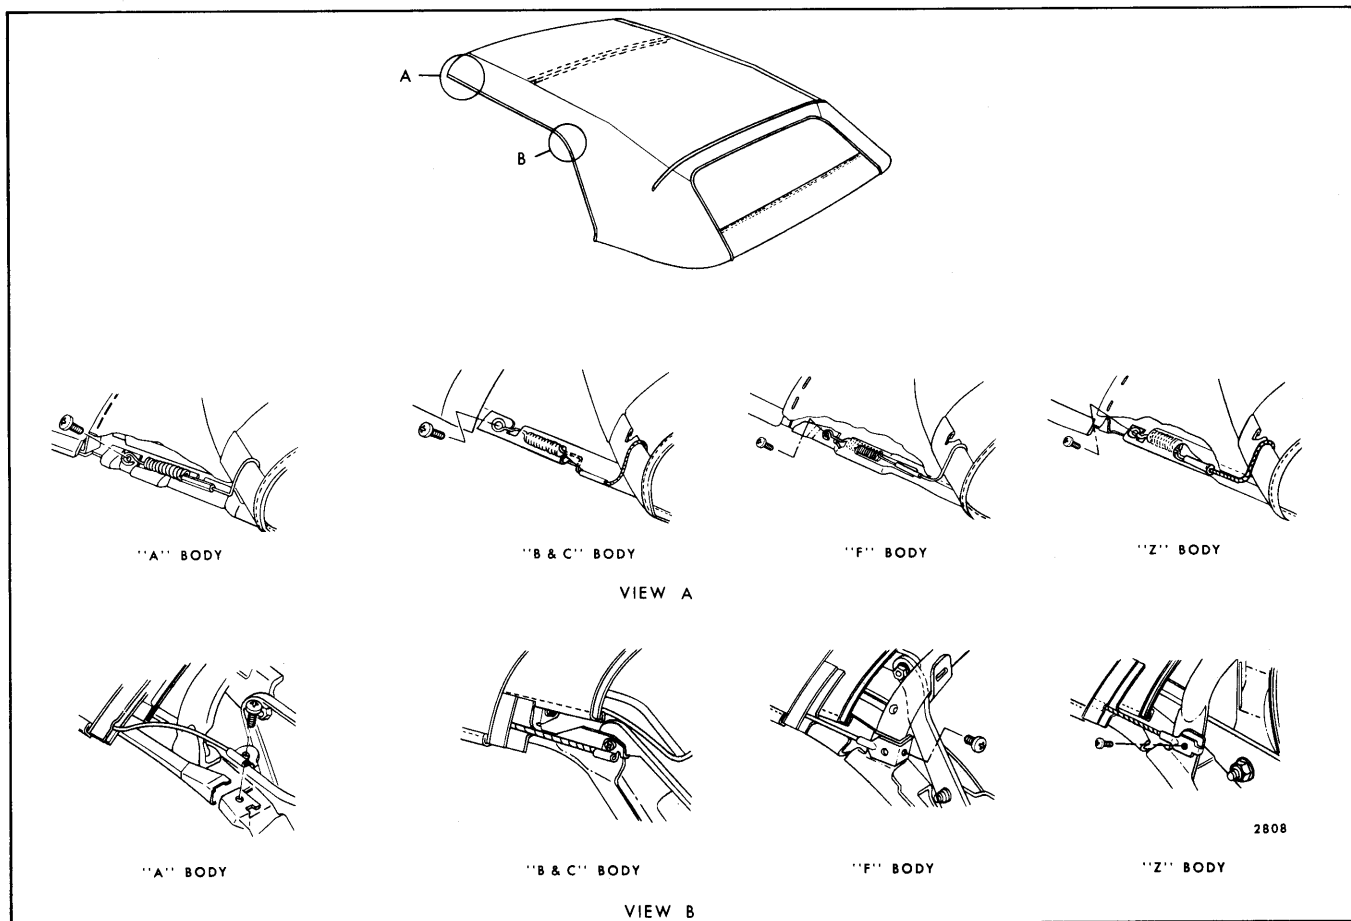

Fig. 13-27—Convertible Top Material Hold Down Cable
12. At right and left side roof front and rear rails, remove hold-down cable front and rear attaching screws. (See Views "A and B" in Fig. 13-27.)
14. After cables have been inserted in hold-down pockets in top material, securely install front and rear cable attaching brackets to side roof front and rear rails (Fig. 13-27).